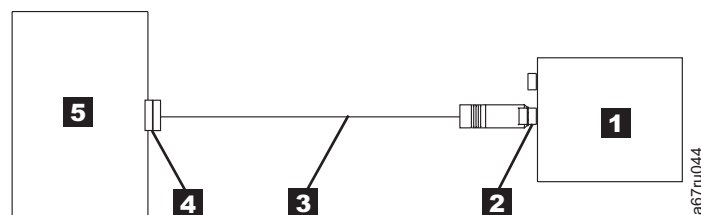
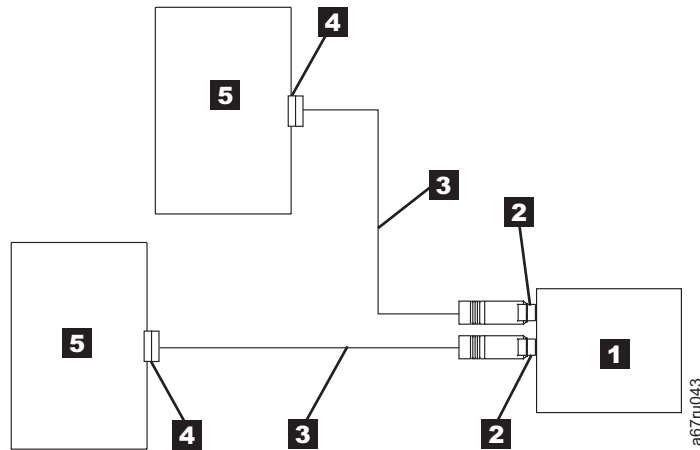

Figure 5. Example of connecting one SAS device to the server
Figure 6. Example of connecting the SAS device to two servers
3. The tape drive has two SAS ports and can be connected to two servers. Refer to the appropriate figure that represents your configuration for cabling information (see Figure 5 or Figure 6 on page 12). Then, connect the SAS cables to SAS host adapters and to the tape drive as shown.